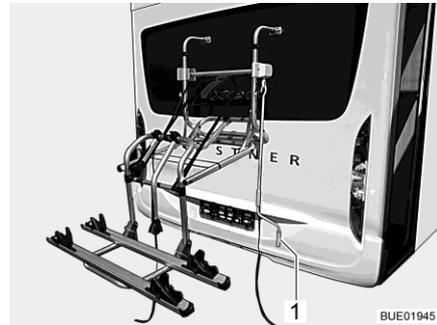

Fig. 4 Bike rack, lowered
- Attach the hand crank (Fig. 4,1) to the bike rack and lower the bike rack to gripping height.